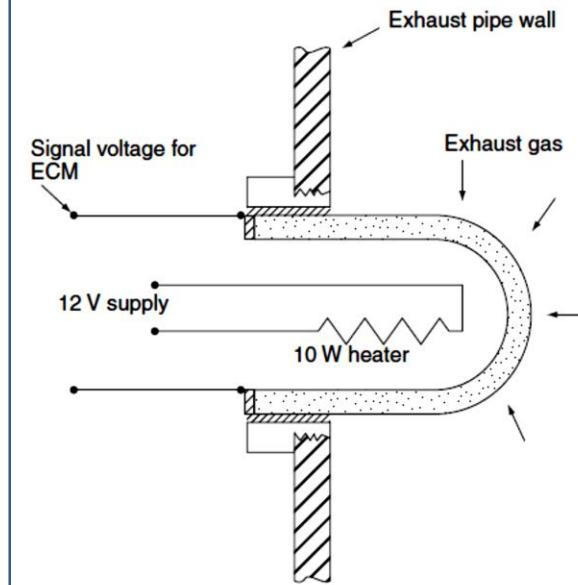

Fig. 5.31 A resistive-type heating element
- In order to assist the sensor to reach this temperature as quickly as possible, from a cold start, it is common practice to equip the sensor with a resistive-type heating element as shown in Fig. 5.31.